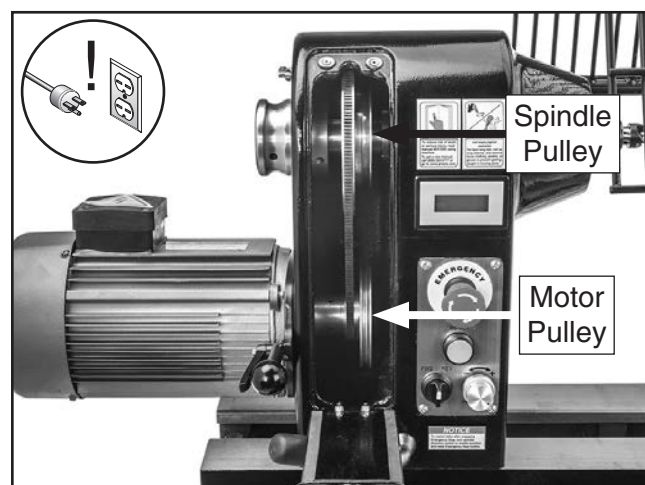

Figure 66. Belt access cover opened.
6. Reach into belt access cavity and roll belt off motor (lower) pulley (see **Figure 66**). Then slide belt off of spindle (upper) pulley.